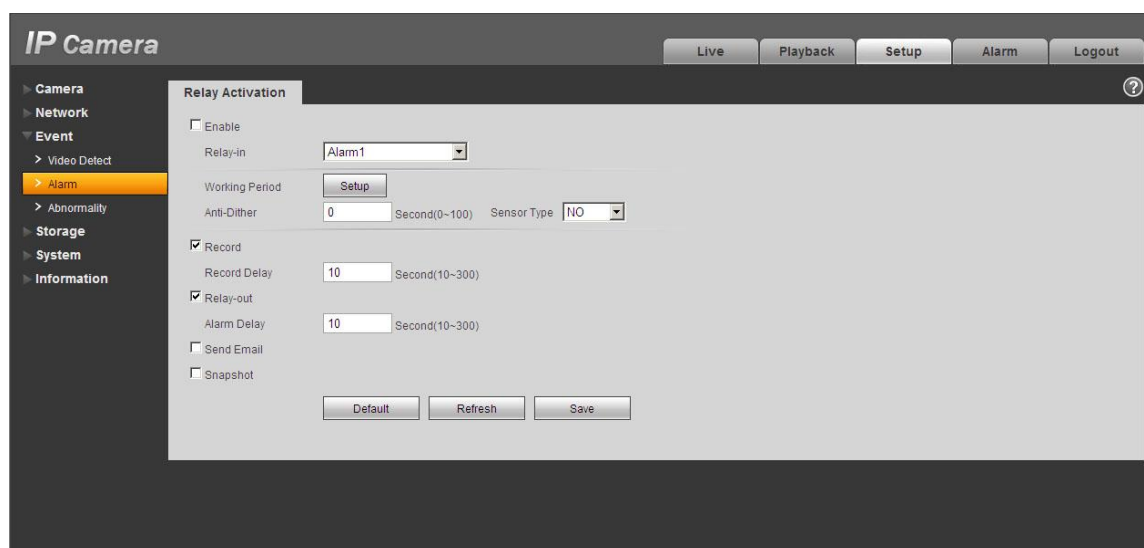

Figure 2-5 Alarm
The alarm interface is shown as in Figure 2-5. Please follow the steps listed below for local alarm input and output connection.
3) Open the Web, go to the Figure 2-5. Please set the alarm input 01 port for the first channel of the I/O cable (No.3 pin). The alarm input 02 is for the 2nd channel of I/O cable (No.4 pin). Then you can select the corresponding type (NO/NC.)